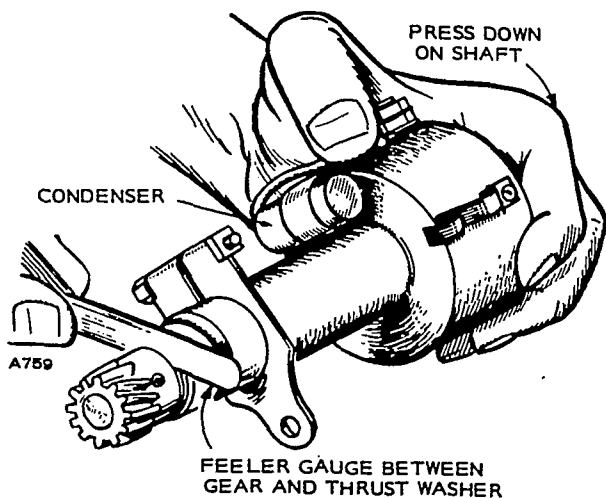

FIGURE 46. CHECKING DRIVE SHAFT END PLAY
2. Check drive shaft end play (Figure 46). It should be between .003 inch and .010 inch. If end play is too small, tap lower end of distributor drive shaft lightly with a soft hammer to increase play. If it is too great, check thrust washer installation or reinstall gear.
Ignition Condenser: The condenser is mounted on the outside of the distributor, Figure 46. Refer to *JB Battery Ignition* section for test procedure. Capacitance should be .25 to .28 mfd.